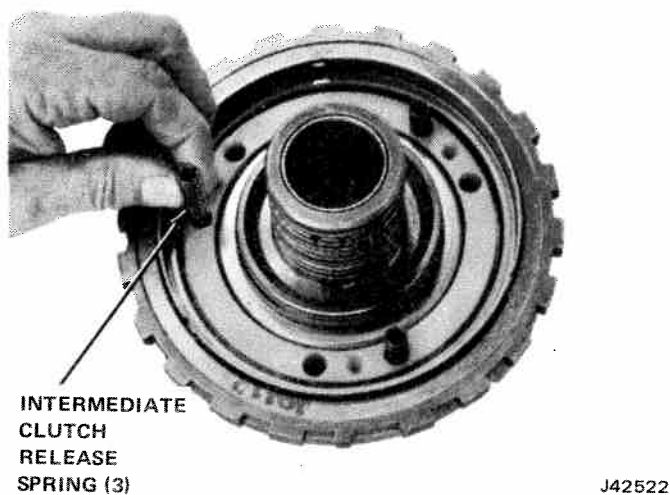
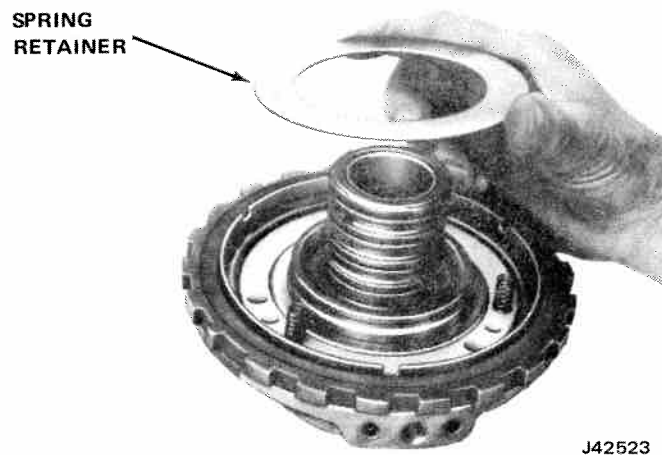

Fig. 7-92 Intermediate Clutch Release Springs
Fig. 7-93 Installing Spring Retainer
(5) Install three release springs into spring holes of spring guide (fig. 7-92). Space springs equally during assembly.
(6) Place spring retainer over springs. Compress spring retainer to center support assembly and secure with snap ring.
(7) Install spring retainer and snap ring as shown in figures 7-93, -94.
(8) Install four Teflon oil rings on center support assembly.